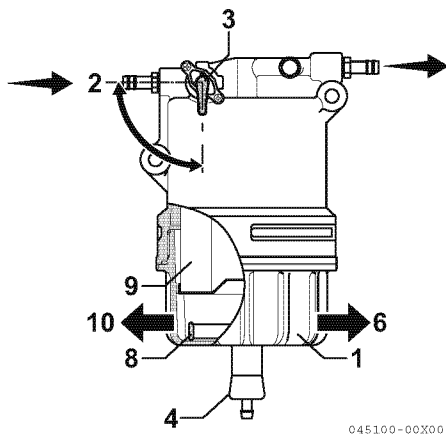

Figure 5-14
1. Position an approved container under the cup (Figure 5-14, (1)) of the fuel filter/water separator to collect the contaminants.
2. Close (Figure 5-14, (2)) the fuel cock (Figure 5-14, (3)).
3. Loosen the drain cock (Figure 5-14, (4)) and drain the contaminants. *See Drain fuel filter/water separator on page 5-11.*
4. Turn the cup (Figure 5-14, (1)) to the left (Figure 5-14, (10)) and remove the cup (Figure 5-14, (1)). If equipped, disconnect the sensor wire from the cup before removing the cup.
6. Remove the float ring (Figure 5-14, (8)) from the cup. Pour the contaminants into the container and dispose of it properly.
7. Clean the element (Figure 5-14, (9)) and inside cup. Replace the element if it is damaged.
11. Install the cup to the bracket by tightening the cup to the right (Figure 5-14, (6)) to a torque of 18 - 22 N·m (1.8 - 2.2 kgf·m).
13. Open the fuel cock (Figure 5-14, (3)).